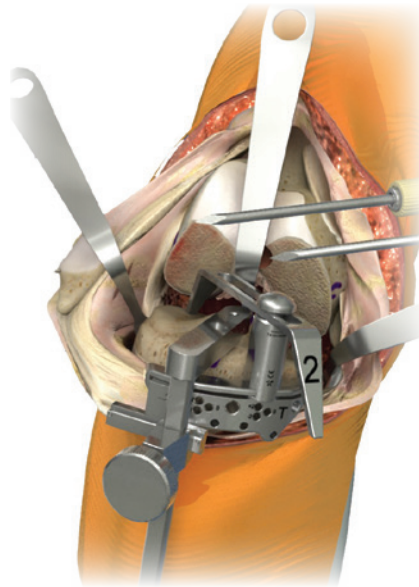

Figure 29
5. Attach the Tibial Stylus to the Universal Cutting Block by inserting the foot of the Tibial Stylus into the cutting slot of the Universal Cutting Block (Figure 29).